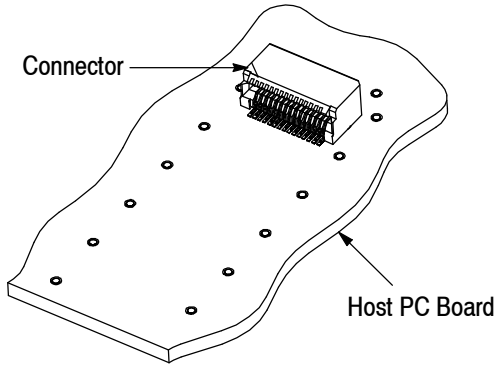

Figure 3
1. Install the connector onto the host pc board according to Application Specification 114-13178. Refer to Figure 3.